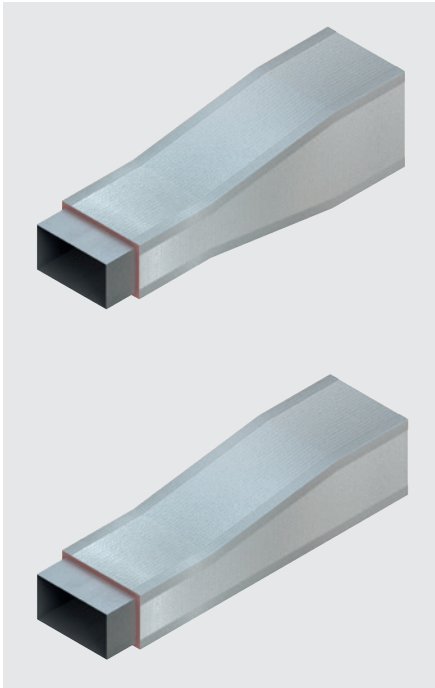

Figure 14: Rectangular angled duct components
- For flat parts of these duct components, rigid insulation boards are cut to size and applied with aluminium tape. (Figure 14).